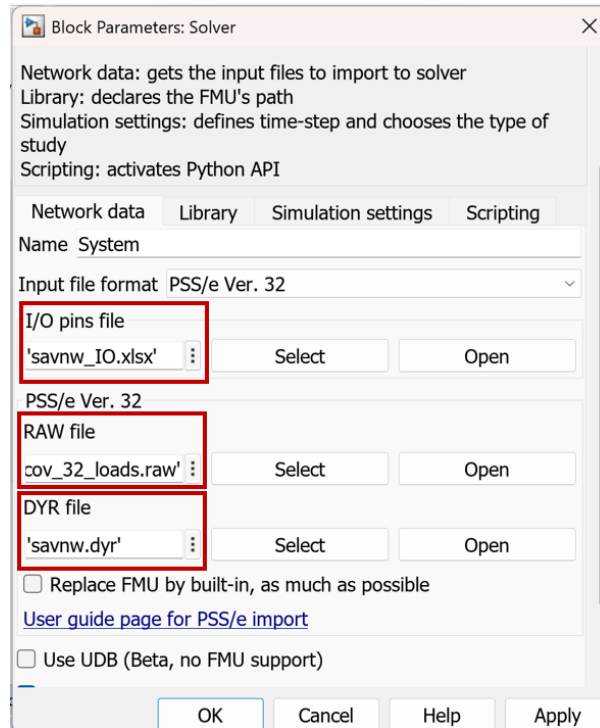

Figure 21: ePHASORSIM Parameter Popup in RT-Lab
- Select the .raw, .dyr, and .xlsx file you have included in the project folder as shown in Figure 21. Click “Apply.”